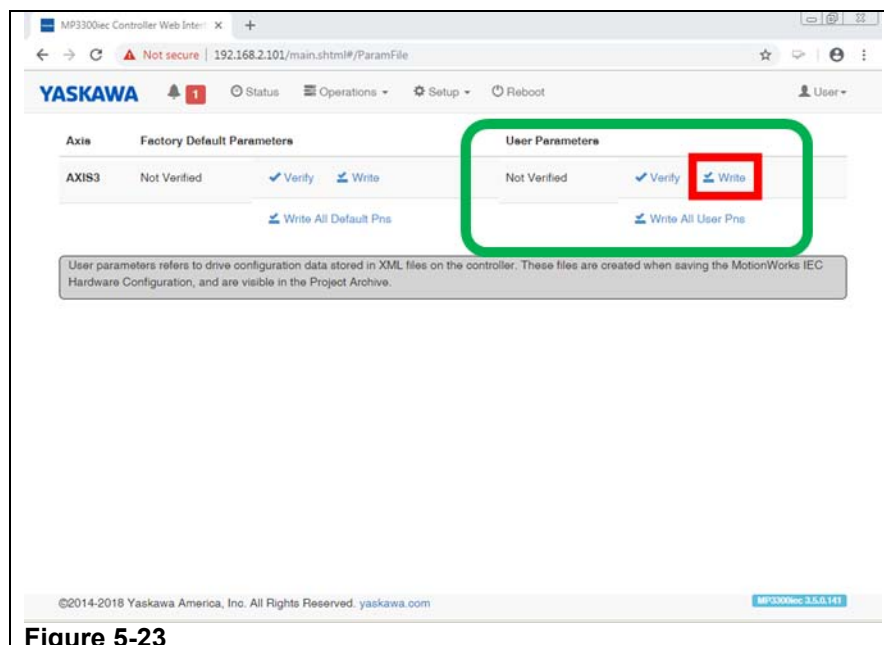

Figure 5-23
- iii. Make sure to use the "Write" command under 'User Parameters' column and **NOT** the one under the 'Factory Default Parameters' column. (Refer to Figure 5-23)